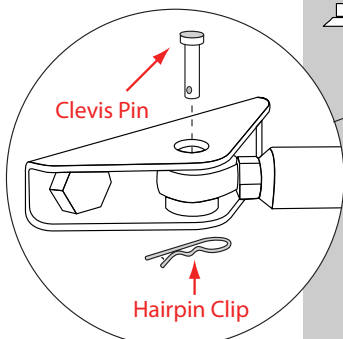

Fig. 5
9. Fit the end of the operator arm into the gate bracket and attach using clevis pin and hairpin clip. (Fig. 5)
NOTE: Gate Arm's length can be adjusted by rotating the gate arm's tube before mounting it to the gate bracket. (Fig. 5)